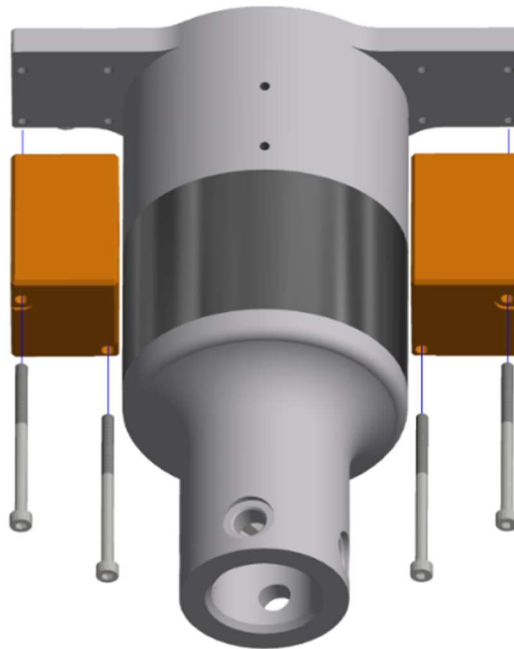

Figure 9-29. Remove the two On Board DAS Structural Replacements (474-8205)
9.2.21 Remove the two On Board DAS Structural Replacements (474-8205) by removing two M3 X 0.5 X 45 LG. SHCS SS per replacement (Figure 9-29).